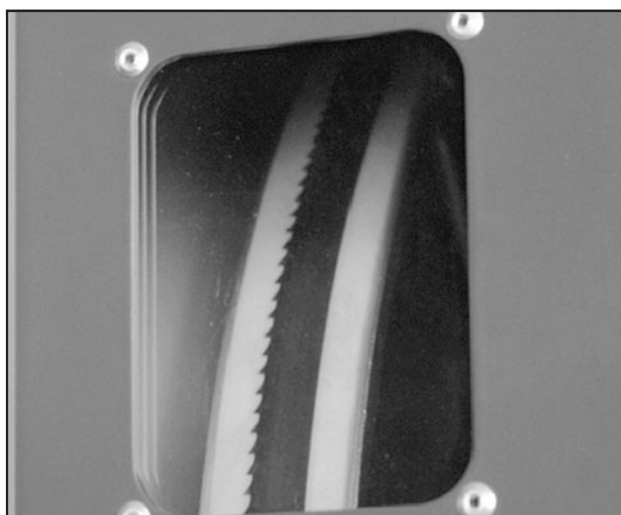

Figure 61. Blade tracking window.
2. Observe the blade tracking path through the clear window on the right edge of the bandsaw as shown in **Figure 61**.